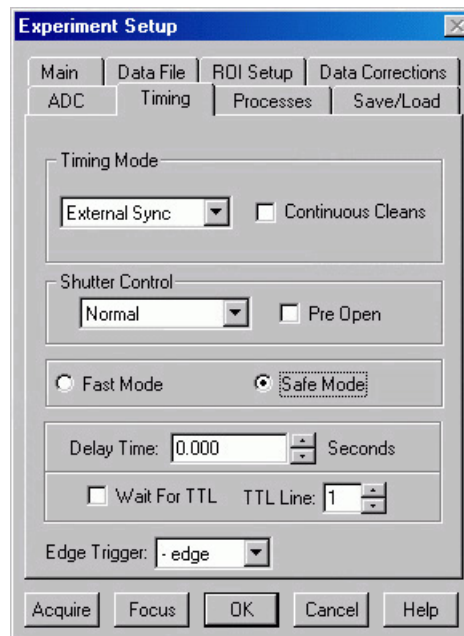

Figure 32. Experiment Setup dialog
3. On the **Timing** tab page (Figure 32) set the following parameters.